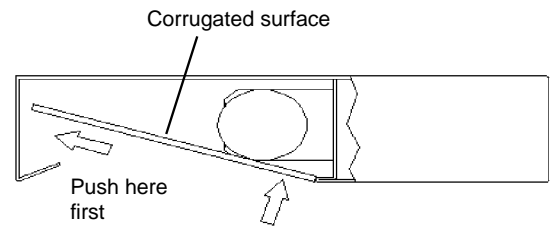

Figure 3. Replacing lens and bulb
4. Now replace the bulb and the lens. The corrugated surface of the lens is toward the bulb. See **Figure 3**.